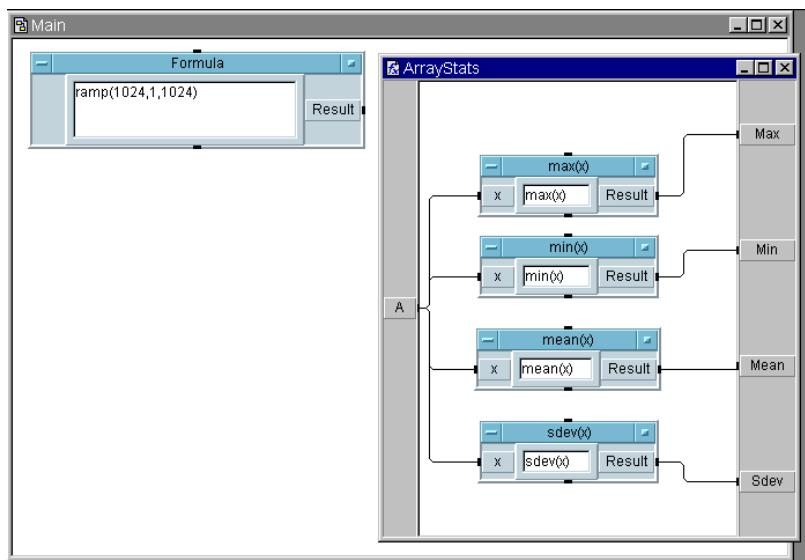

Figure 8-1. The Main and ArrayStats Windows
- d. Place them in `ArrayStats`, and connect their data inputs to `A` and their data outputs to the appropriate output terminals. Make the `ArrayStats` window smaller to see both of the Main and `ArrayStats` windows. See Figure 8-1.